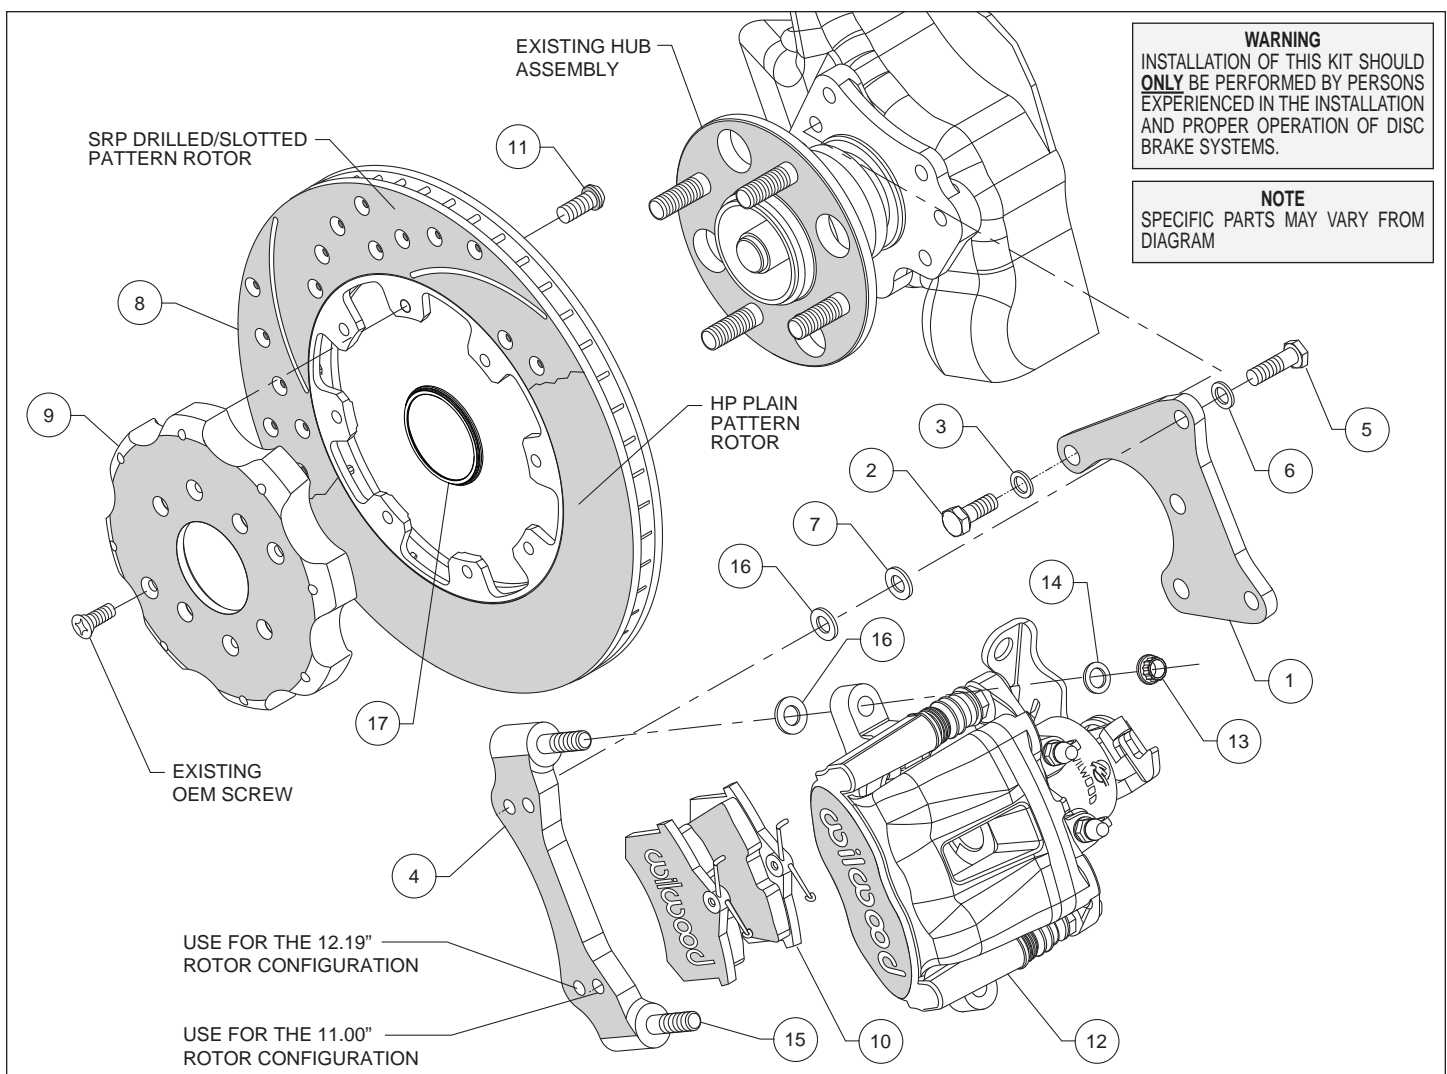

Figure 1. Typical Installation Configuration
- The flat axle bracket (1) should initially be installed with clean, dry threads on the mounting bolts. Orient the axle bracket as shown in Figure 1, and install using bolts (2) and washers (3). Temporarily tighten the mounting bolts. **NOTE: The bracket must fit squarely against the mount bosses on the upright.** Inspect for interference from casting irregularities, machining ridges, burrs, etc. Remove the bracket mounting bolts (2) one at a time, apply red *Loctite*® 271 to the threads, and torque to 40 ft-lb.
- The caliper bracket (4) should initially be installed with clean, dry threads on the mounting bolts. Orient the caliper bracket as shown in Figure 1, and attach to the axle bracket (1) using bolts (5) and washers (6). Initially place two .035" thick shims (16) between the two brackets, Figure 1. Temporarily tighten the mounting bolts. Later, after the caliper alignment has been checked, the mount bolts will be secured using red *Loctite*® 271.
- Orient the rotor (8) and hat (9) as shown in Figure 1 and Photo 1. Attach the rotor to the hat using bolts (11). Using an alternating sequence, apply red *Loctite*® 271 to the threads, and torque to 25 ft-lbs.
- Slide the rotor registration adapter (17) onto the axle register on the axle hub with the smaller O.D. facing outward, Photo 2.
- Install the brake pads (10) into the caliper (12) from the bottom, with the friction material facing the rotor, until the "v" spring clip snaps into place against the anvil, as shown in Figure 1 and Photo 3. They should install easily without interference.
- Lubricate the caliper mounting studs (15) with lightweight oil. Initially place two .035" thick shims (16) on each stud as shown in Figure 1. Mount the caliper (12) onto the bracket (4) using lock nuts (13) and washers (14), Figure 1 and Photo 4. Temporarily tighten the lock nuts and view the rotor from the end of the caliper. The rotor should be centered in the caliper, Photo 5. If not, adjust by adding or subtracting shims (7 and/or 16) between the axle bracket (1) and the caliper bracket (4). Always use the same amount of shims on each of the two mounting bolts. Once the caliper alignment is correct, remove the caliper bracket mounting bolts (5) one at a time, apply red *Loctite*® 271 to the threads, and torque to 35 ft-lb.
- Check that the top of the brake pad (10) is flush with the outside diameter of the rotor (8), Photo 6. If not, adjust by adding or subtracting shims (16) between the caliper and the bracket. After the caliper pad height is set, torque the caliper lock nuts (13) to 30 ft-lb.